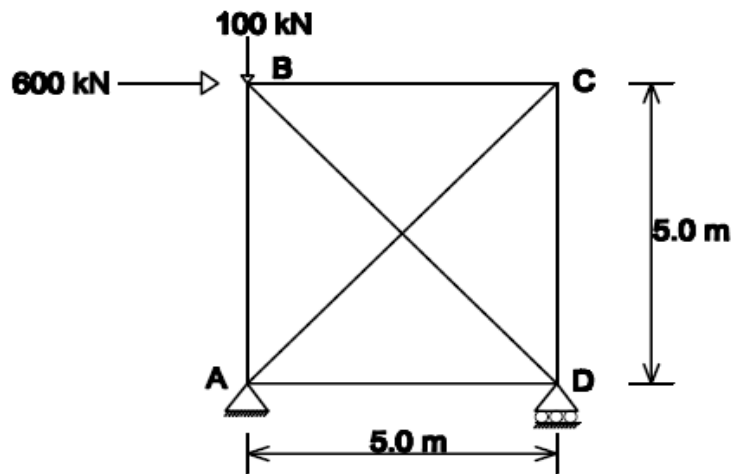

Figure 6
6. Find the forces in the members of the truss using Displacement method [Figure.6] [14 M]